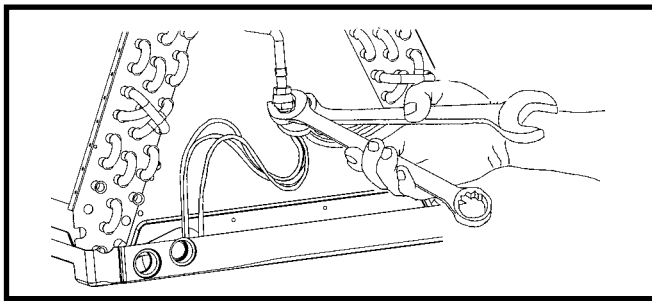

Figure 2. Loosening of Nut & Distributor Body
1. Using two wrenches, loosen the nut and distributor body as shown in Figure 2 (page 4). Turn the assembly nut counter-clock-wise until the orifice body halves are separated.